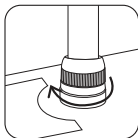

fig.11
1. Insert the hose connector into the base until resistance is felt. Lock the connector by turning clockwise. (fig.10 & fig.11)